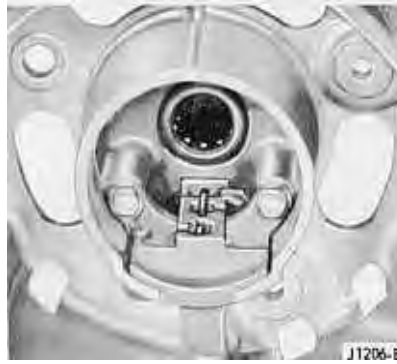

FIG. 5—Brush Lead Positions
7. Position the brush holder assembly in the rear end housing and install the mounting screws. Position the brush leads in the brush holder as shown in Fig. 5.